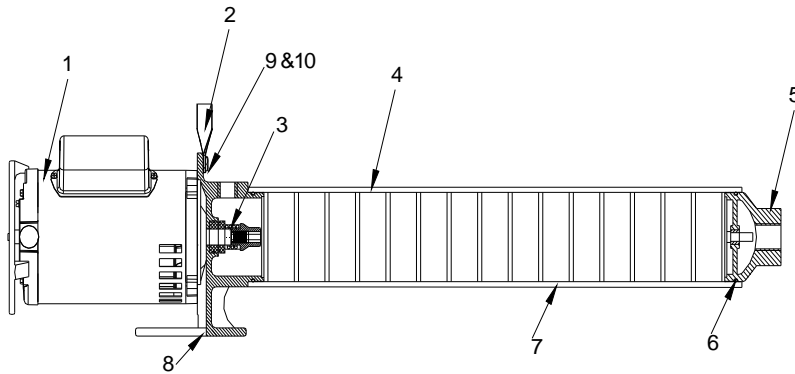

Figure 16 — Repair parts for illustration — For Standard Booster Models
**NOTE:** For pump disassembly, refer to replacement parts illustrations (See Figures 16 & 17 on page 14&15).